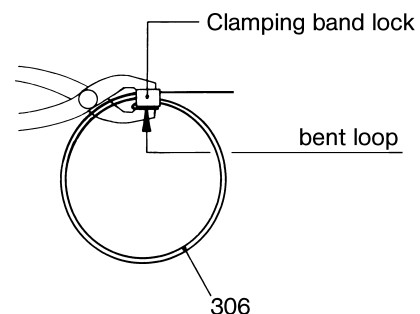

Figure 9: Press bent loop of clamping band against the clamping band lock.
- Push clamping bands (306), cover sleeves (308) and retaining sleeve (304) onto the shaft of the coupling rod (307).
- Push the coupling rod (307) into the head of the rotor (401) or the hollow shaft (125).
- Raise the cover sleeve (308) by lifting at the top with a screwdriver, guide the oil can spray pipe beneath the sleeve, and fill the joint area with ALLWEILER special joint oil Type B or ET 1510 ISO 460 oil from Tribol Lubricants GmbH, Mönchengladbach. For use in the food industry, fill with ALLWEILER Special Joint Oil Type BL or 1810/460 oil from Tribol Lubricants GmbH, Mönchengladbach. For filling quantities, please see the table in Section 7.1.2.4.
- Check that the bent loop of the clamping band (306) is resting against the clamping band lock. If not, press it against the lock with a pair of standard flat pliers (see Figure 9).